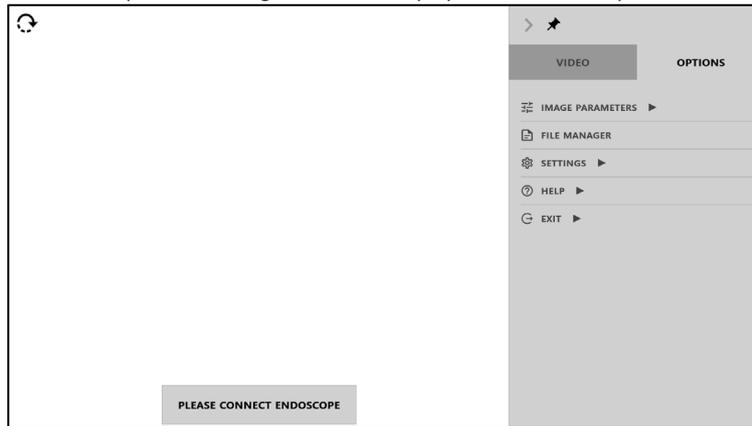

Figure 4 - Endoscope Connection Screen
2. Connect the connector of the endoscope to the designated endoscope port on the front panel of the Console (Figure 4).